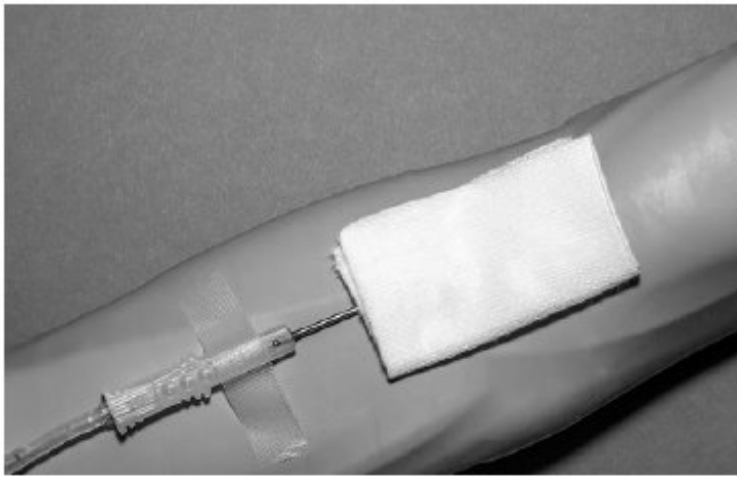

Figure 1
6. Following blood center procedures, perform venipuncture, appropriately secure donor needle and/or tubing and release clamp on donor tubing. When good blood flow is established, stabilize the front of the needle guard to arm with tape (see Figure 1).